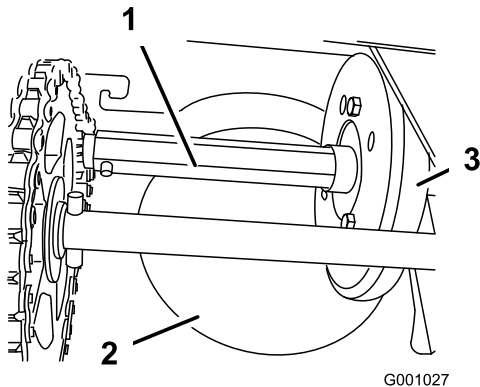

Figure 35
Lightly lubricate the hex shaft yearly with automotive engine oil (Figure 35).
**Important:** Do not get oil on the rubber wheel or the aluminum friction drive plate because the traction drive will slip (Figure 35).